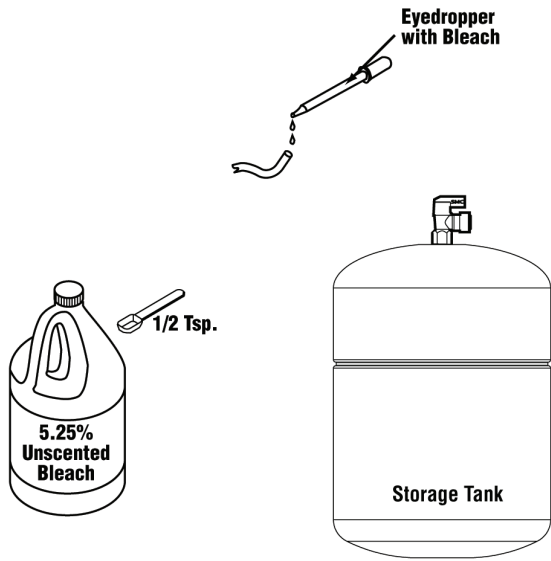

Fig. 8
- 3) Insert into the yellow tubing 1/2 teaspoon (3 ml) of household bleach. (See Fig 8)